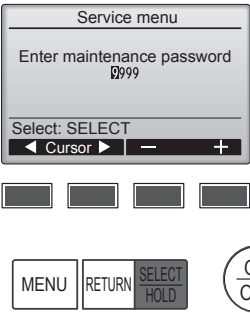

Fig. 6-2
- ① Select "Service" from the Main menu, and press the [SELECT/HOLD] button.
② When the Service menu is selected, a window will appear asking for the password. (Fig. 6-2)